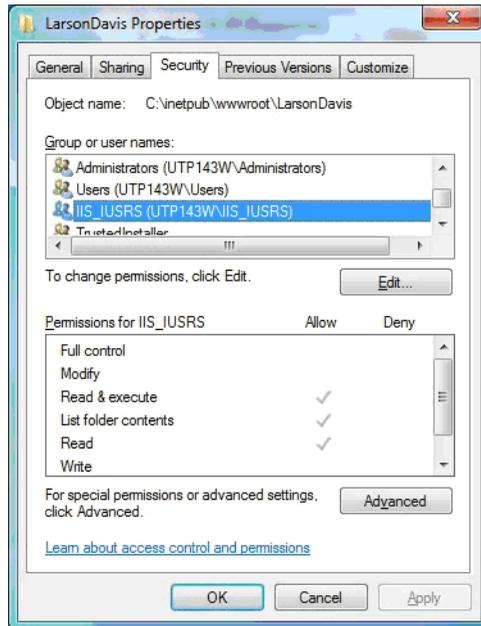

FIGURE 2-10 Larson Davis Properties - Security
Step 14 On the LarsonDavis Properties sheet, click the **Security** tab, as shown in FIGURE 2-10.
Step 15 Select the user or group that will access the web site, as shown in FIGURE 2-10. Ensure the user or group has the following permissions: